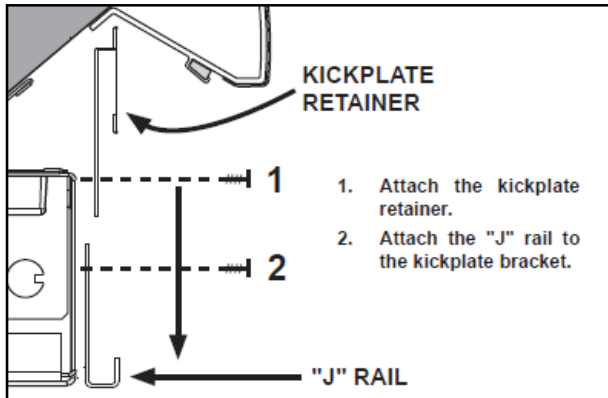

Fig. 6: "J" rail installation
1. Using the screws provided, install the upper kickplate retainer and the "J" rail, both of which are shipped loose in the case (Fig. 6). The kickplate brackets are pre-installed at the factory.